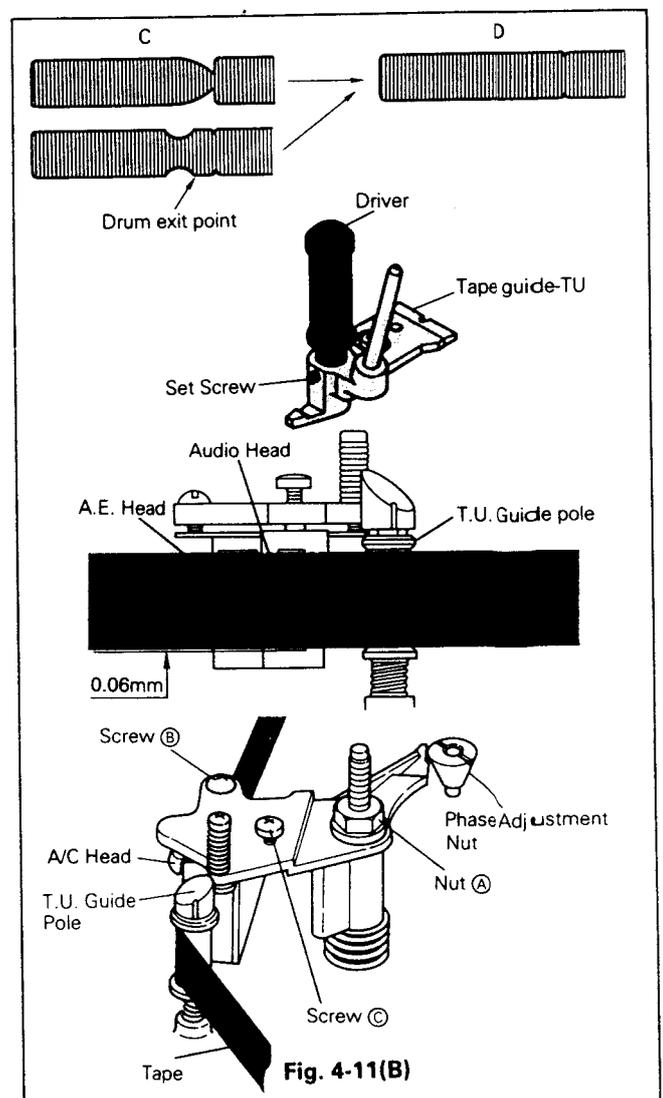

Fig. 4-11(B)
- D. In this case, rotate Audio/control head height adjusting Nut (A), until letting top of the head meets, the tape. Whether A/C head height shall be raised up or lowered shall be decided on the basis as shown in Fig. 4-11(B).